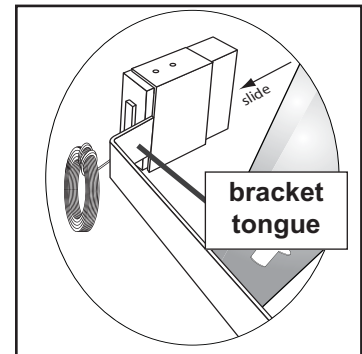

FIG. 4-3 Attach sensors to brackets.
- Slide source/sensor onto tongue of bracket until it clicks into place (**Fig. 4-3**).